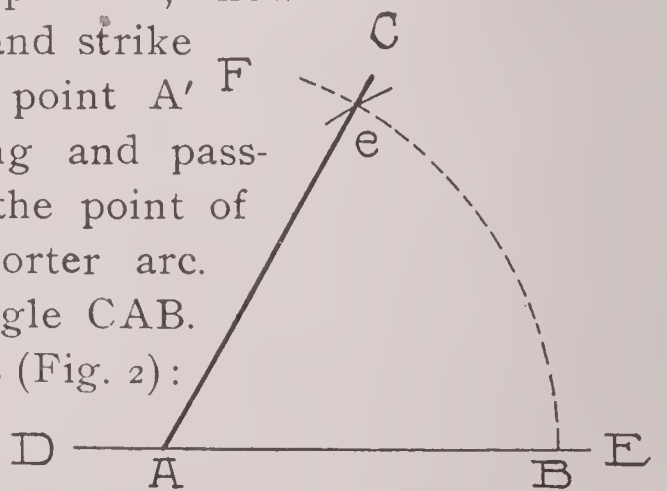

Fig. 2
2. To construct an angle of 60 degrees (Fig. 2):